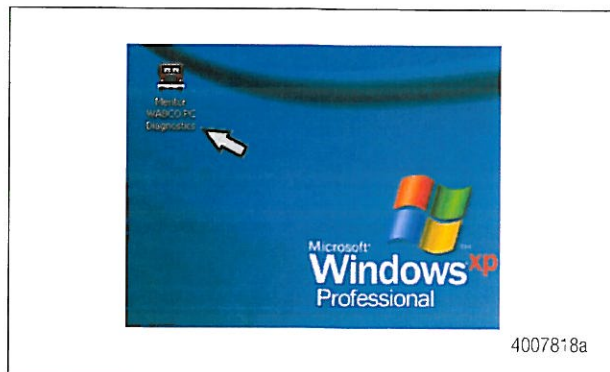

Figure 8
1. To access the Meritor WABCO TOOLBOX™ Software, double-click on the Meritor WABCO TOOLBOX™ icon from the desktop. Figure 8.